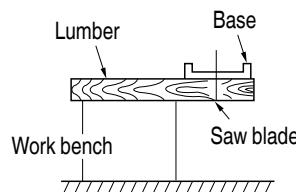

Fig. 5
- Prepare a wooden work bench (Fig. 5)